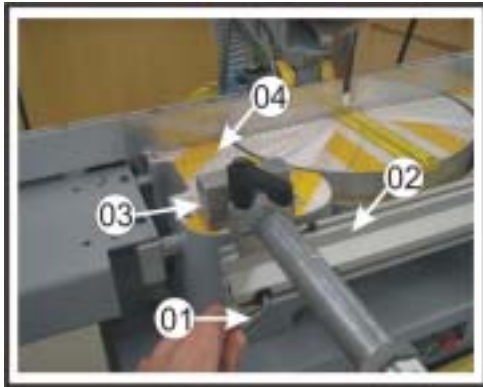

Figure 07
- Insert the Allen bolt 01 into the fence 02 and tighten it fig. 07.